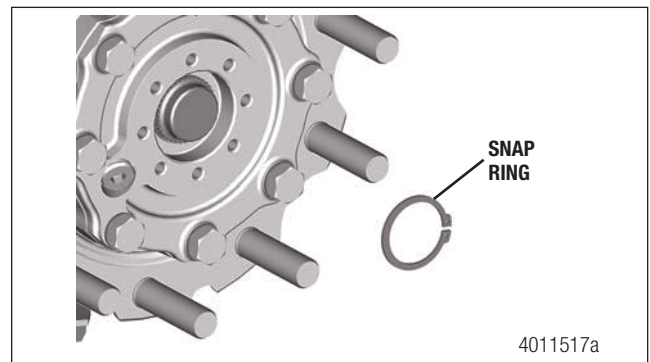

Figure 5.6
4. Remove the snap ring from the end of the axle shaft. Figure 5.6.